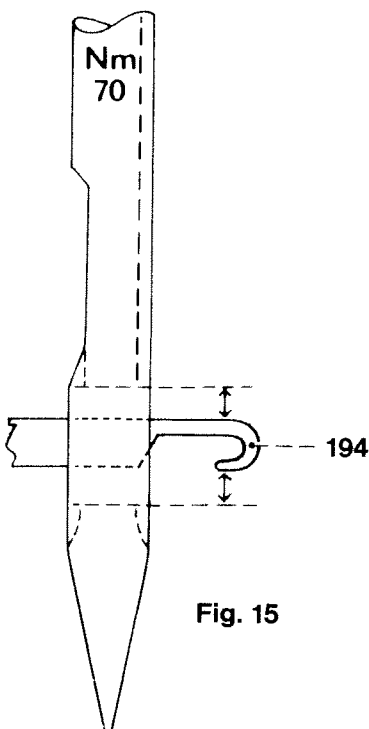

Fig. 15
With the threader key pushed fully down, prong 194 must pass through in the middle between the top- and bottom edge of the needle eye with a needle of size Nm 70 (Fig. 15).
- Push threader key 191 upward or downward until prong 194 is the same distance from the top- and bottom edge of the needle eye (Fig. 15).
Fig. 15 a